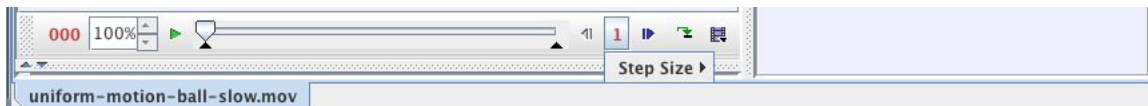

Figure 6: Change the step size in order to skip frames.
8. Since there are 300 frames of video recorded per second, the time interval between frames is quite small. As a result, we can skip frames between marking the ball and thus take fewer data points. Click on the **Step Size** button, as shown in Figure 6 and change it to **5**.